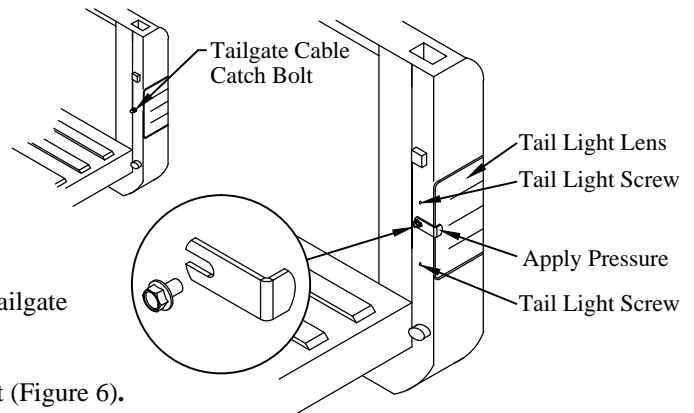

Figure 6: Tail light modification detail.
1. **Remove** four (4) factory tail light screws, two (2) per side (Figure 6).
2. **Remove** the tailgate cable catch bolts (Figure 6).
3. **Install** the M8 x 1.25 x 12 bolts and tail light clips (supplied) in the tailgate cable catch bolt locations (Figure 6).
4. **Apply** pressure to the tail light from the rear while tightening the bolt (Figure 6).